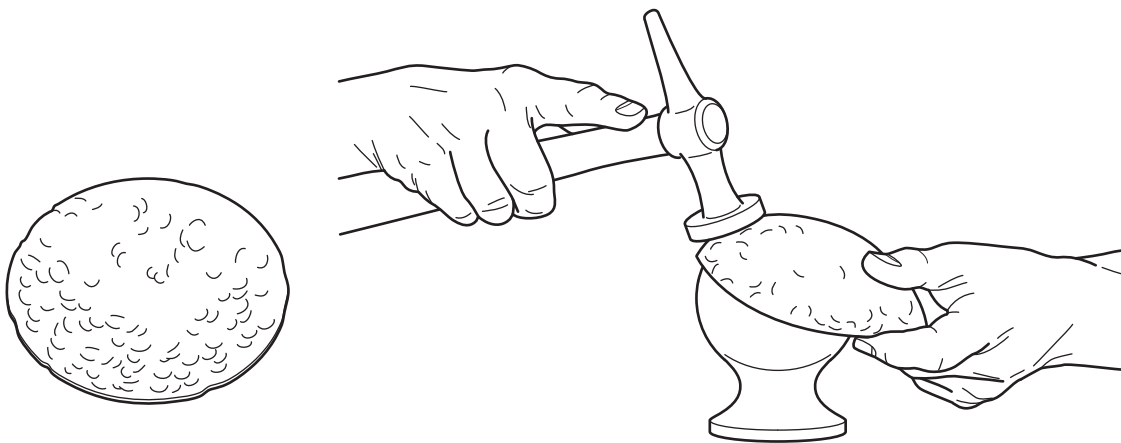

Fig. 7.1
- 7 Fig. 7.1 shows a dish that has been shaped from thin copper sheet and a process that is carried out during its manufacture.
- (a) Name the process shown in Fig. 7.1.